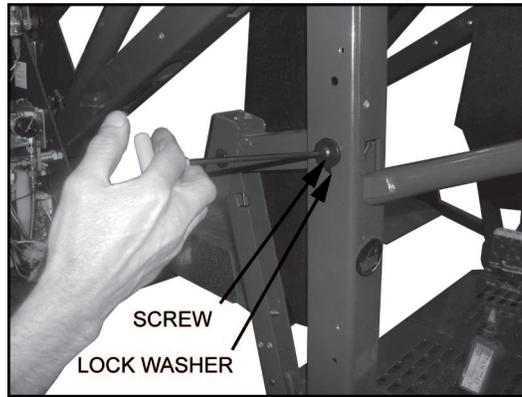

FIGURE 3-28
6. Refer to **Figure 3-28**. Remove screw and lock washer then remove pin to detach knuckle arm assembly from platform assembly.